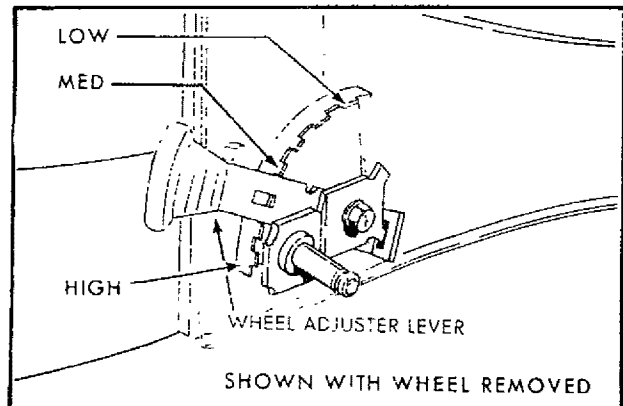
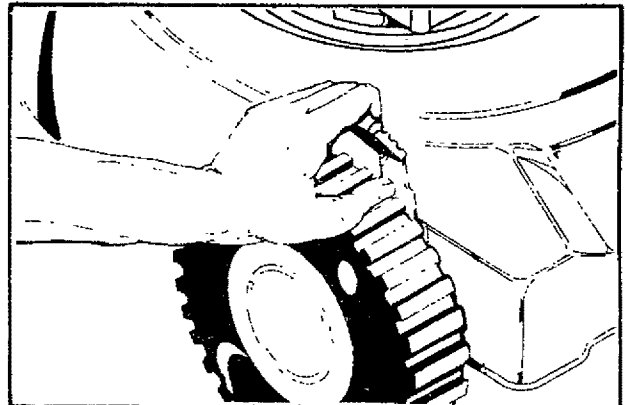
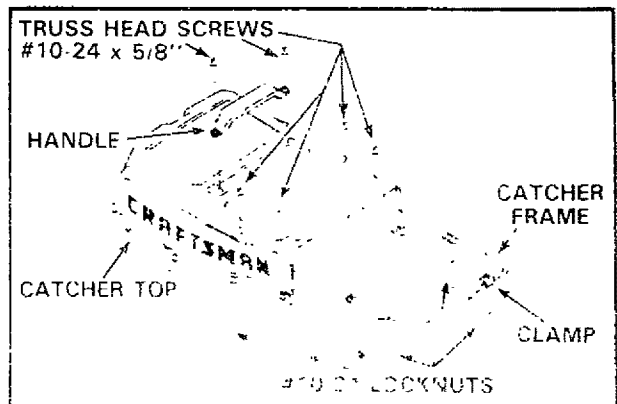

FIG. 6
FIG. 7
FIG. 8
2. High cut is approximately 4", medium cut is approximately 2 1/2" and low cut is approximately 1 3/4". There are four (4) other positions. Pick the position which suits you for best cutting (See Fig. 6).
3. The wheel adjusters on your lawn mower can be easily adjusted as shown in Fig. 7. To change the height of cut, squeeze adjuster lever toward the wheel, moving up or down to selected height. Be sure all wheels are in the same setting (See Fig. 6).
1. Position clamp onto catcher frame as shown in (Fig. 8) and close ends of clamp.
2. Put grass catcher frame with clamp installed into catcher top as shown in Fig. 8).
3. Put one (1) #10-24 x 5/8 truss head screw into hole in catcher top and clamp and install #10-24 locknut. **DO NOT TIGHTEN** (See Fig. 7).
4. Put three (3) #10-24 x 5/8 truss head screws into the catcher frame and install #10-24 locknuts.
5. Locate and position the catcher handle on top of catcher top as shown in fig 8.
6. Install two (2) #10-24 x 5/8" truss head screws thru handle and catcher top. See Fig. 8.
7. Install two #10-24 locknuts on the screws. See Fig. 8. Use a flat blade screwdriver to drive screws while holding the locknuts with adjustable or 3/8" wrench (See Fig. 8).